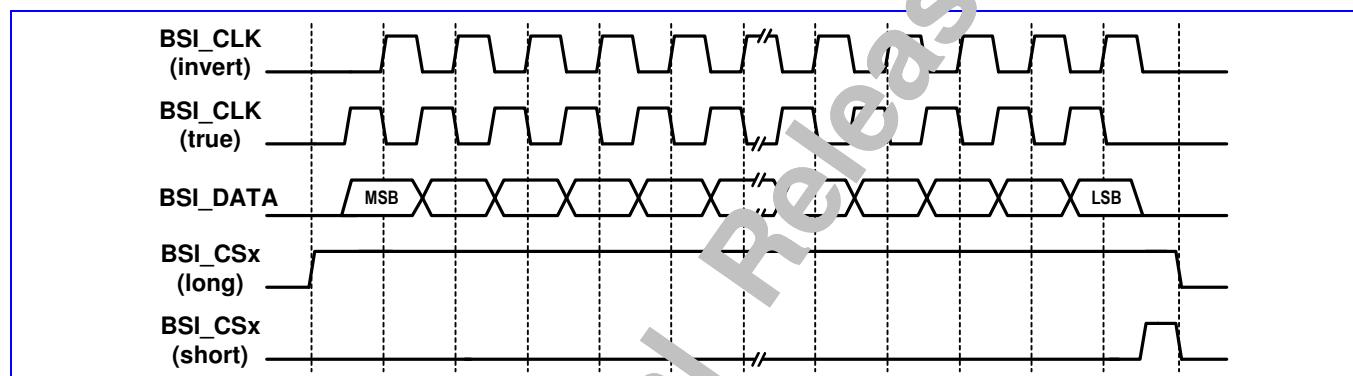

Figure 68 Timing characteristic of BSI interface
**CLK\_POL** The flag controls the polarity of BSI\_CLK. Refer to Figure 68.
**ENX\_LEN** The field controls the type of the signal BSI\_CS0 and BSI\_CS1. Refer to **Figure 68**.